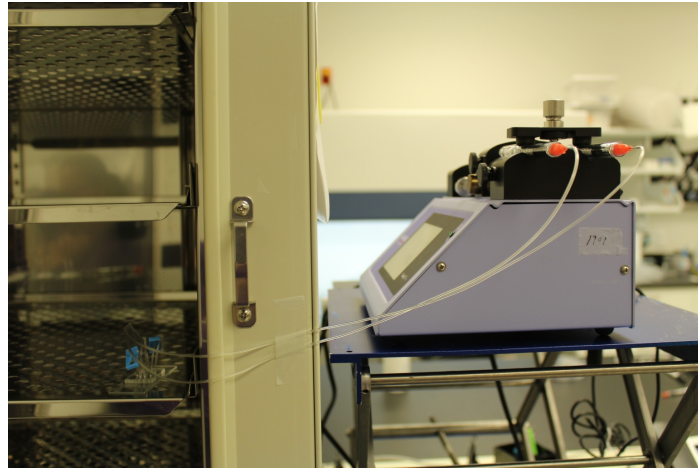

Figure 2. Use the lab jack to elevate the syringe pump so that the syringe platform is higher than the shelf with the microfluidics device.
2. Set the height of the lab jack so that the syringe platform is higher than the microfluidics device (**Figure 2**).
Figure 2. Visual comparison of the 1/4 inch (0.635 cm) outer diameter (OD) push-in serviceable filter (A), to the metal male connector on the Pneumatic Primer Box (B).